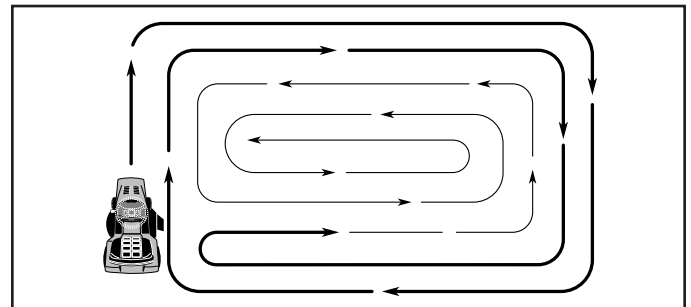

Fig. 13
- When mowing large areas, start by turning to the right so that clippings will discharge away from shrubs, fences, driveways, etc. After one or two rounds, mow in the opposite direction making left hand turns until finished (See Fig. 13).